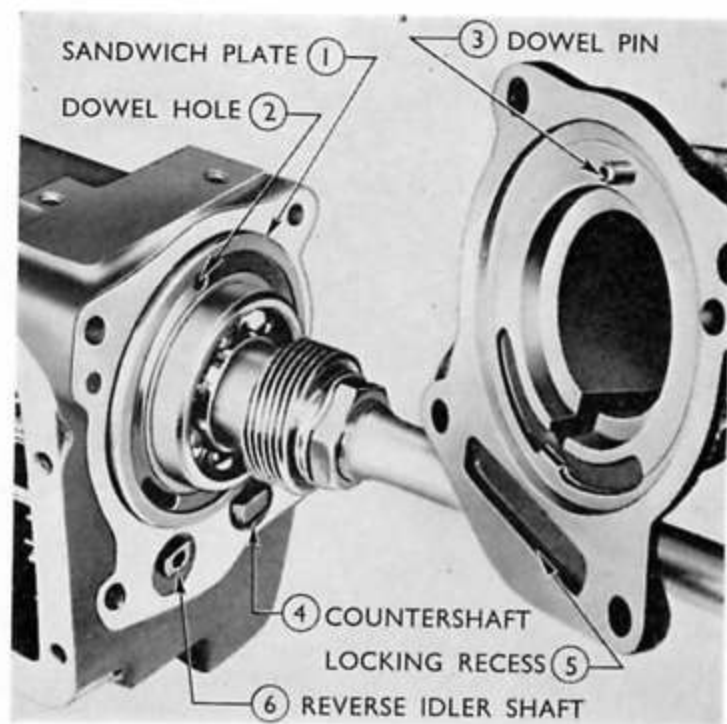

Fig. 14
24. Install the reverse idler gear and shaft. Position the reverse idler gear with the groove for the selector fork towards the rear of the gearbox. Fit the shaft in the case and through the gear so that the flats will line up with the locking recess in the extension housing. (See Fig. 14.)